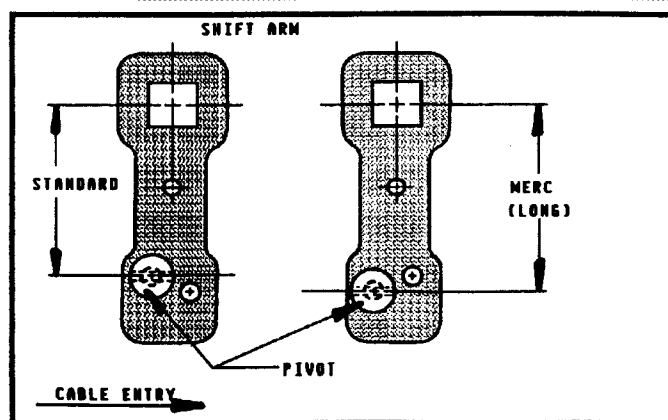

FIGURE 9
To obtain standard (2-3/4 inch) cable shift travel at engine use shift arm on control at short pivot hole location as shown in Figure 9.
NOTE: THE CONTROL SHIFT LEVER AND THE TRANSMISSION SHIFT LEVER MUST COINCIDE AT THE FORWARD, NEUTRAL AND REVERSE POSITIONS. DIFFERENT MAKES OF TRANSMISSIONS MAY REQUIRE DIFFERENT AMOUNTS OF SHIFT TRAVEL. FOR THIS REASON, THE CONTROL SHIFT LEVER IS PROVIDED WITH TWO (2) POSITIONS FOR ATTACHING THE SHIFT CABLE: ONE FOR STANDARD TRAVEL AND ONE FOR THE LONGEST TRAVEL. SEE FIGURE 9.